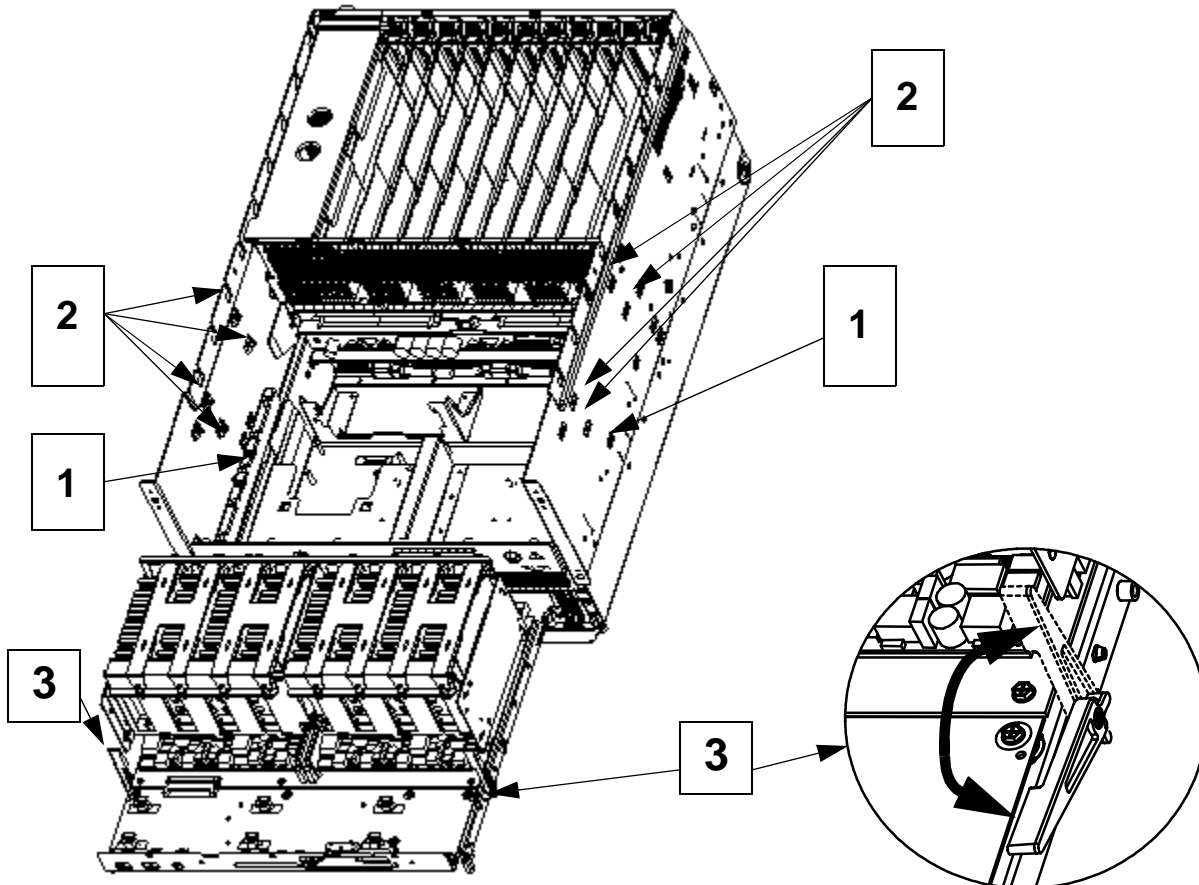

Figure 2-9: Profusion[®] Carrier Tray
nectors begin to engage, rotate the levers back until the connectors are fully engaged. Levers should be in an upright or near upright position. Secure the tray and the processor retention mechanism to the sides of the chassis with screws (1) and (2) as indicated in Figure 2-9.